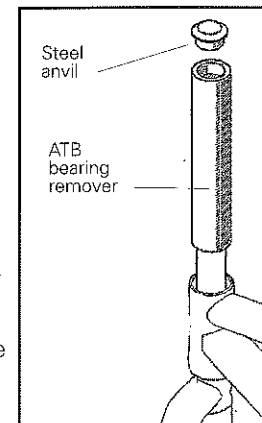

Fig. 33
9. With the fork resting in the head tube, slide the thin-walled end of the **ATB bearing remover** over the steerer (Fig. 33).